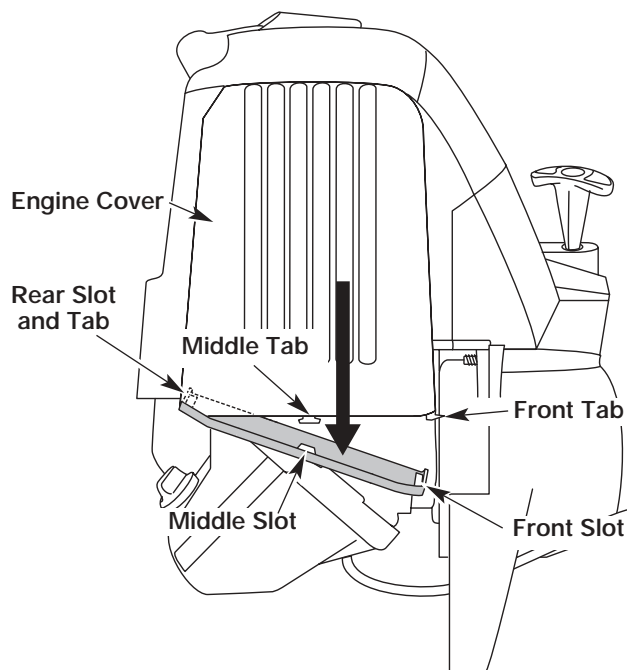

Fig. 67
1. Remove the muffler cover by pressing down on it, separating it from the engine cover. Using a flat blade screwdriver, disengage the middle and front tabs and slots first. The cover will hinge off from the rear tab (Fig. 67).
13. Reinstall the muffler cover. Slip the rear tab on the muffler cover into the engine cover rear slot. Then slide the remaining slots into the tabs until they snap into place (Fig. 67).